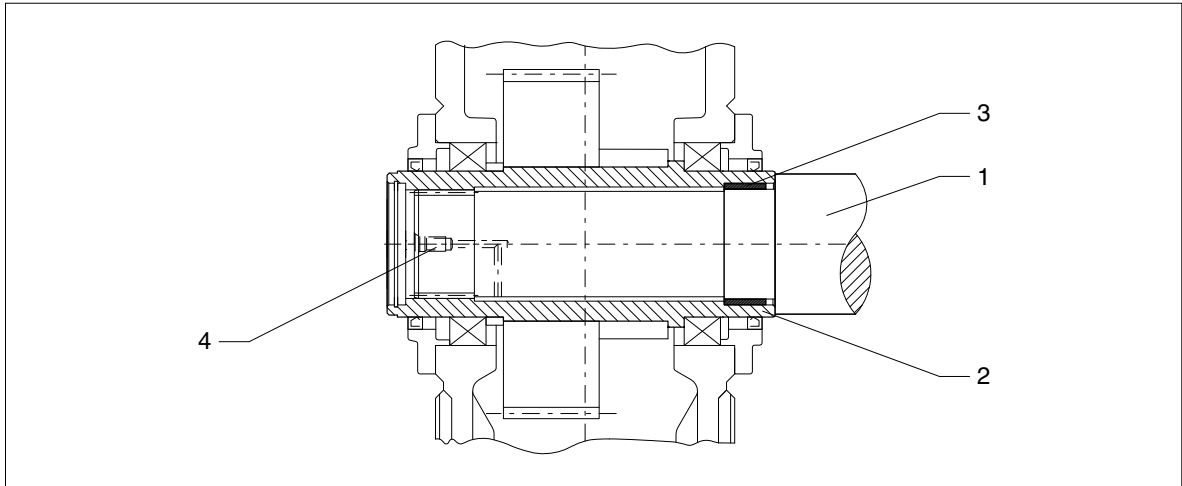

Fig. 51: Hollow shaft with internal spline, preparation
To facilitate demounting (see also item 6.4.3), we recommend providing a connection for pressure oil on the end of the driven machine shaft. For this a hole must be drilled through to the hollow shaft bore (see figure 51). This connection may also be used for supplying rust-releasing agent.